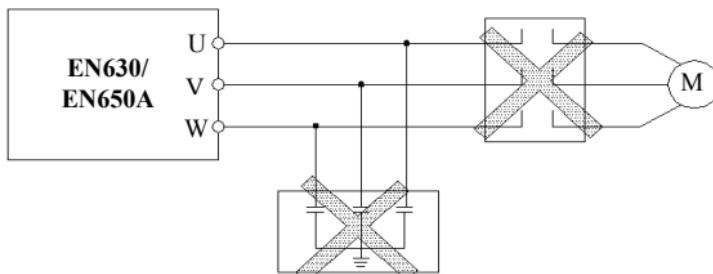

Fig.3-3 Forbid to use contactor and absorbing capacitor
- (1) Assure power be cut off completely for above 10 minutes before wiring, otherwise there is danger of getting electric shock.
- (2) Forbid connecting power wire to output U, V, W of the inverter.
- (3) If there is current leakage inside inverter, when current leakage greater than 5mA for medium & big power inverter, inverter and motor must be earth grounding for safety assurance, and the diameter of earth grounding copper cable is greater than 3.5mm², resistor less than 10Ω.
- (4) Before shipment compression resistance test of the inverter is passed, so users should not conduct compression resistance test again.
- (5) Do not add absorbing capacitor or other resistance-capacitor absorbing device between inverter and motor; also do not add electromagnetic contact, show as Fig.3-3
- (6) To provide inverter over-current protection in output side and convenient maintenance under power off, it should be connected to power source through relay.
- (7) Relay, input & output circuit wiring (X1~X7, Y1, Y2/DO, TA, TB, TC, AI1, AI2, AO, 485A, 485B)should select greater than 0.75mm² stranded wire or shielding wire. One end of the shielding layer hang in the air, and the other end connect to inverter earth grounding terminal, connection wire shorter than 20m.